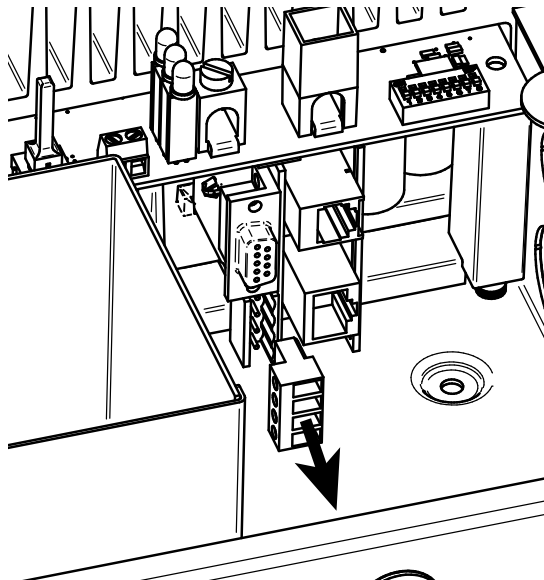

Figure 3-13. Removing the EIA-485 socket connector
The four (4) position EIA-485 connector on the TriStar MPPT must be removed to access the terminal screws. Remove the socket connector by firmly grasping the connector body and pulling away from the circuit board as shown in figure 3-13.